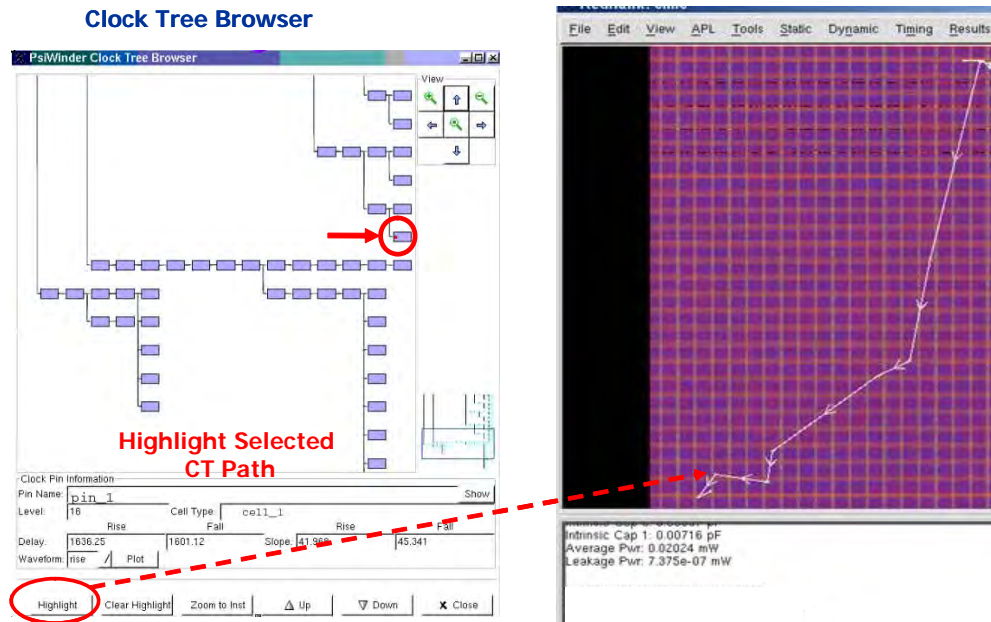

Figure 8-8 Highlighted clock network
- Highlight button: highlights the entire selected clock path from root to the selected pins in the GUI design layout window. If multiple pins are selected, the common path will be highlighted in yellow. See Figure 8-8.